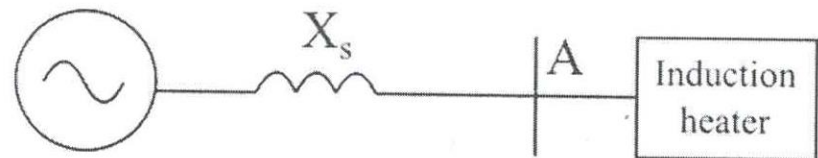

Figure Q4.
- b) An induction heater is connected to point A in a power system. The power grid beyond point A can be approximated by a voltage source and an equivalent reactance of 0.98Ω as shown in Figure Q4. The line-to-line voltage of the voltage source is 415 V, 50 Hz and it does not contain harmonics. The rms value of the current drawn by the induction heater is 17.8 A. The harmonic content of the current drawn by the induction heater is listed in Table Q4. The active and reactive power drawn by the induction heater are 10 kW and 8 kVAR respectively.